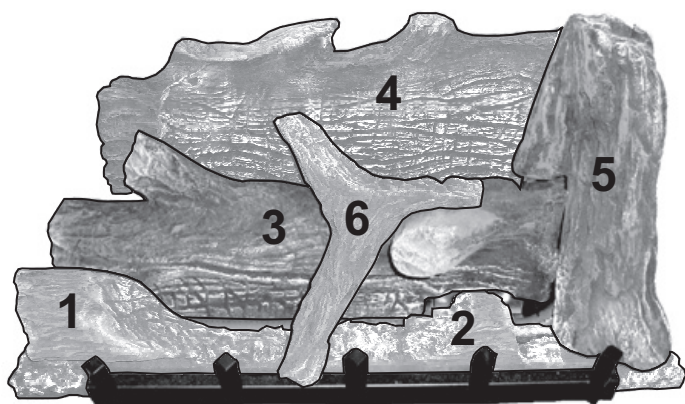

Figure 58
**ATTENTION:** Do not use Figure 58 or Figure 59 to order logs. Refer to parts list and parts view on pages 84 to 85 to order logs and/or ember material for your appropriate fireplace model.